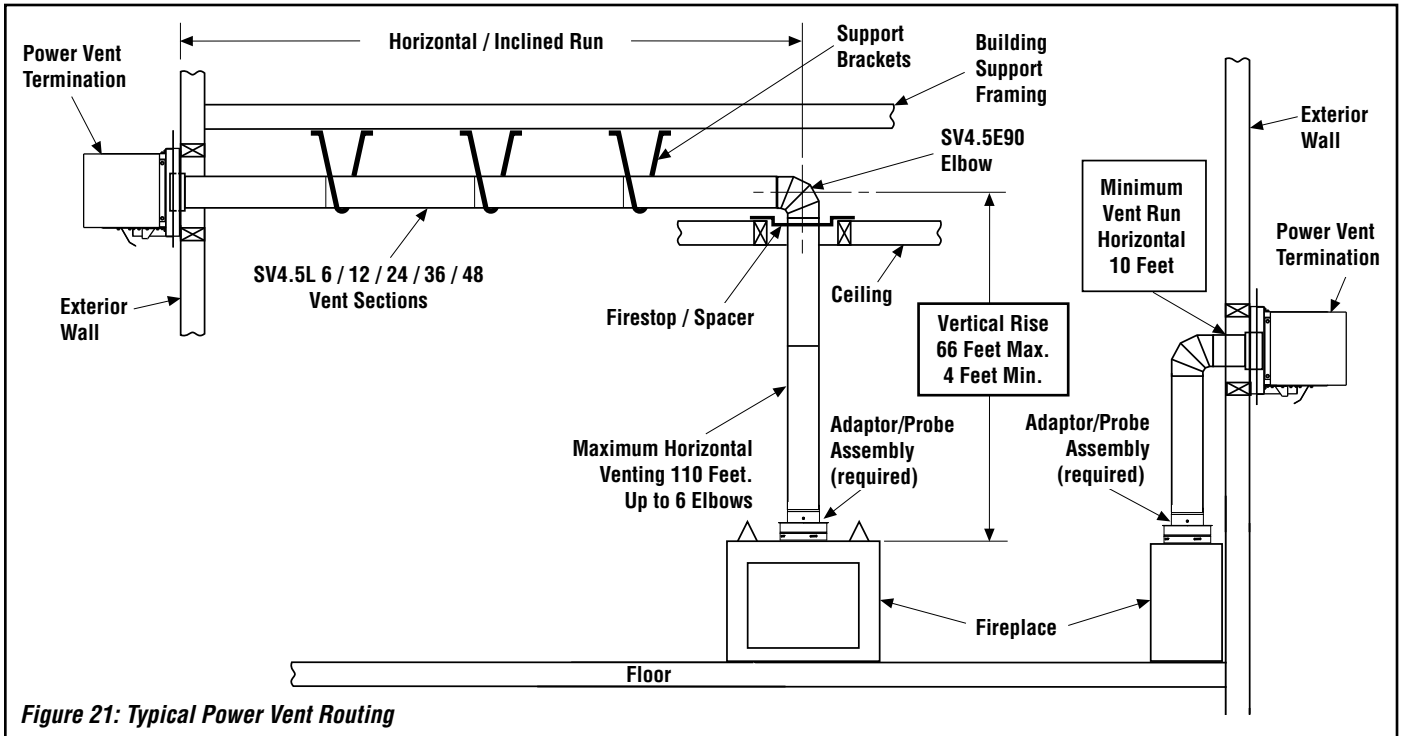

Figure 21: Typical Power Vent Routing
C. Attach vent components to each other. Other vent sections may be added to the previously installed section in accordance with the requirements shown in Figures 21 and 22 on Page 19.
G. Continue installation of horizontal/inclined sections. Continue with the installation of the straight vent sections in horizontal/inclined run as described in Step C. Install support straps every 3' (914 mm) along horizontal/inclined vent runs using conventional plumber's tape (see Page 19, Figure 21).
See **Figures 21 and 22 on Page 19** illustrating the various horizontal venting configurations that are possible for use with these appliances. The table in **Figure 22 on Page 19** shows each system's minimum and maximum vertical and horizontal length values that can be used to design and install the vent components in a variety of applications.
See **Figure 21 on Page 19**.